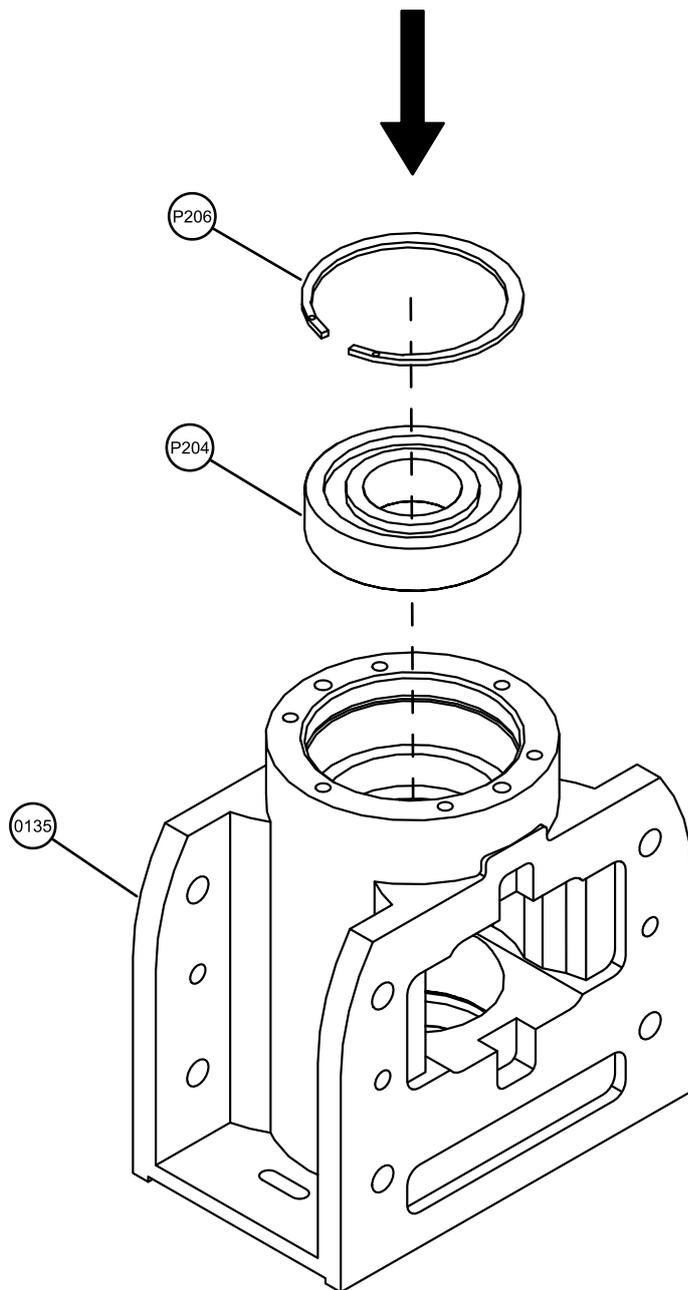

Fig. 13.1
- Fig. 13.1. Press bearing (P204) into the top housing (0135) and secure with circlip (P206). See note.